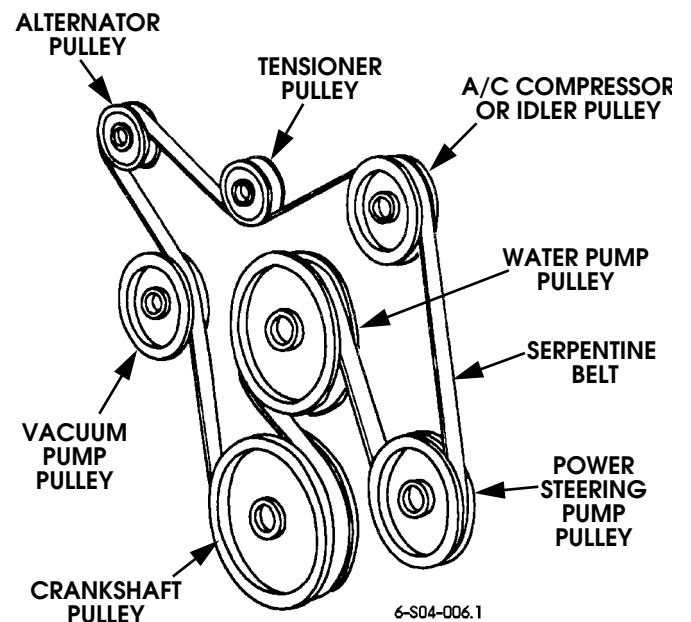

Figure 2-18: Serpentine Belt Installation
3. Install serpentine belt on all pulleys except belt tensioner (Figure 2-18). Turn tensioner counterclockwise with breaker bar and slide belt onto tensioner. Then release breaker bar so tensioner can rotate clockwise to adjust belt.
8. Install serpentine belt (Figure 2-18).